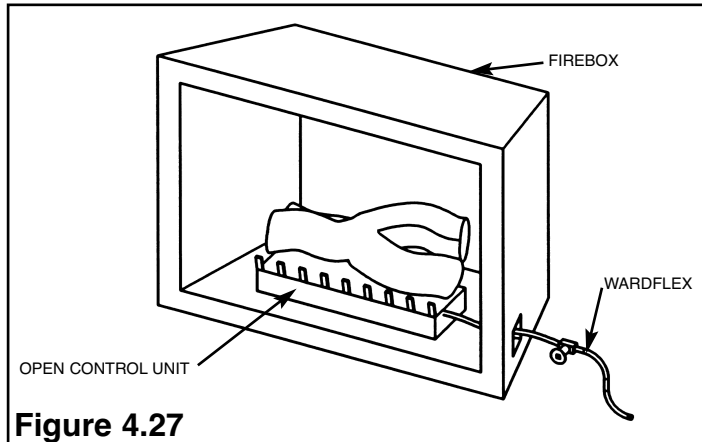

Figure 4.27
- **WARDFLEX may be directly connected to the controls beneath the gas logs in accordance with the manufacturer's instructions.** (See Figures 4.27 and 4.28). Use care when connecting WARDFLEX directly to a control unit to avoid damaging the controls.